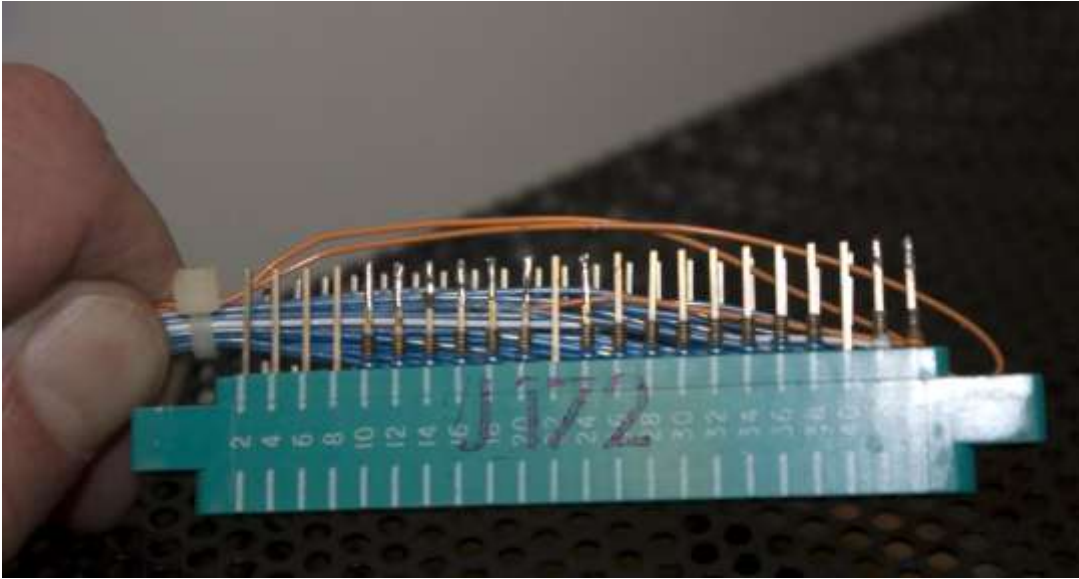

Figure 3 - Connector J172 unplugged from the SDDS Mux board.
1. Identify the SDDS Mux board J127 connector. Figure 3 shows the connector unplugged from the SDDS Mux Board. You can choose to either leave the connector plugged in or unplugged to make these connections, whichever is more convenient. If you choose to unplug the connector,